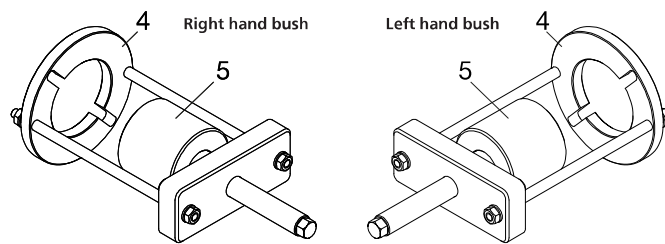
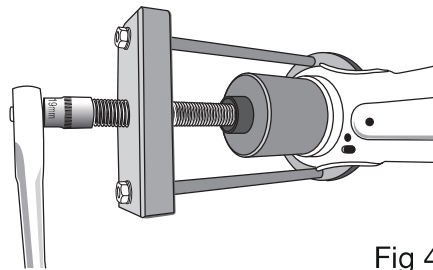

Fig 3
Fig 4
- Using the components shown in **Fig 3**, mount the bush tool on the arm as shown and push out the old bush by turning the force screw in a clockwise direction as shown in **Fig 4**